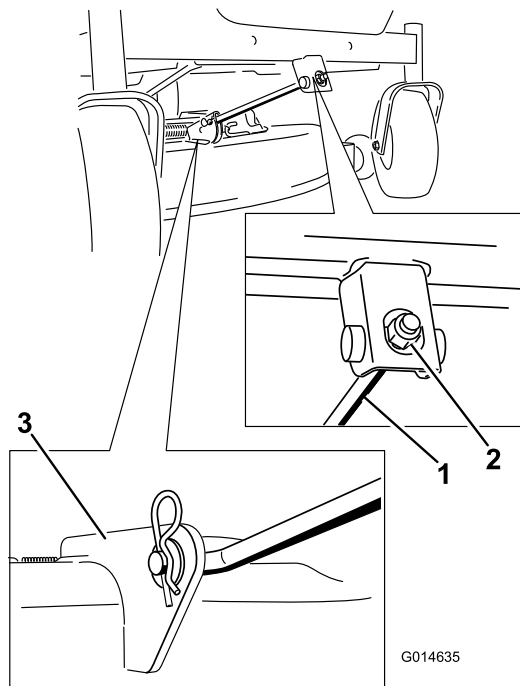

Figure 54
5. Remove the hairpin-cotter pin from the front support rod, and remove the rod from the deck bracket (Figure 54).
6. Attach the front support rod to the mower deck with the clevis pin and hairpin cotter (Figure 54).